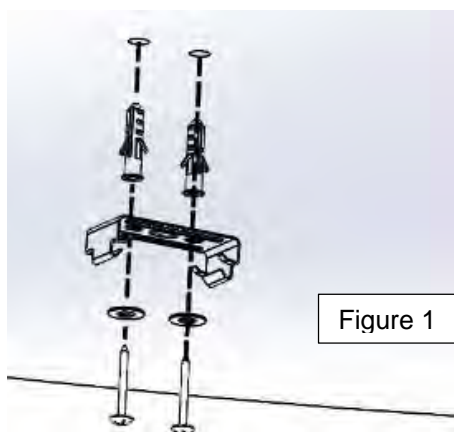

Figure 1
1. Locate drill holes for mounting brackets shown in figure 1. Use hardware found in hardware kit.